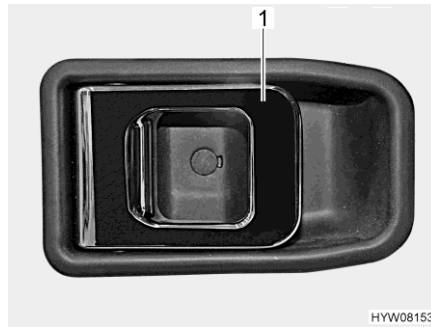

Fig. 34 Door lock (driver's door/ living area door, inside)
- Opening:** ■ Pull on the handle (Fig. 34,1). The door lock is unlatched or opened.
- Locking:** ■ Push the handle (Fig. 34,1). The door lock is locked.